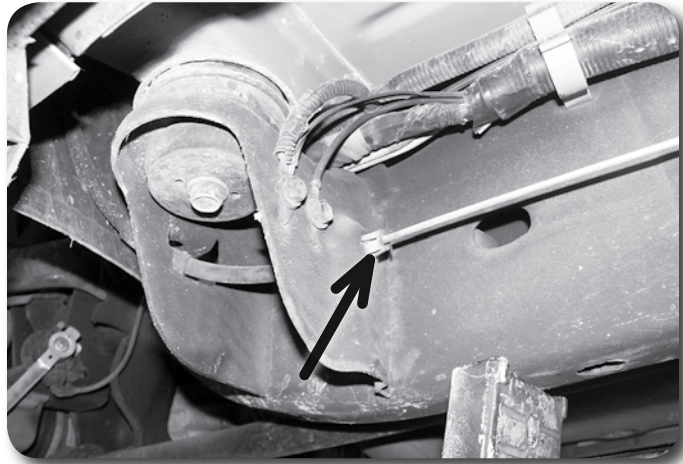

Figure 14
18. Compress the retaining clip at the body mount **Figure 14** and pull the parking brake cable out the front of the body mount.